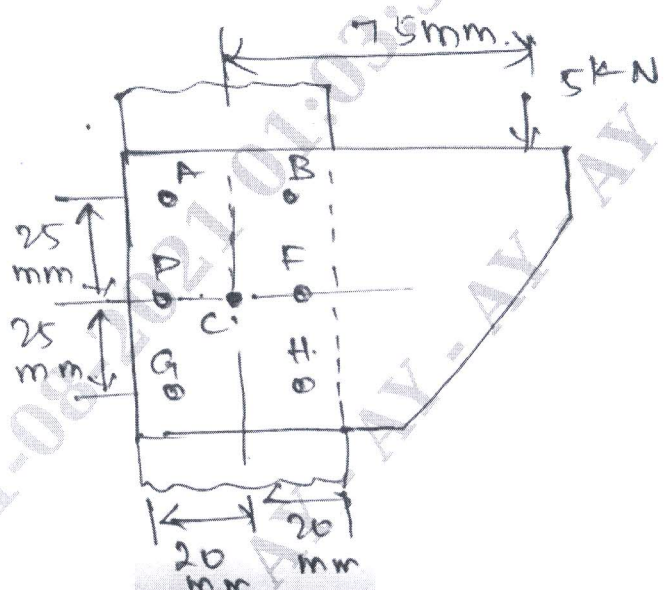

Fig. Q6 (b)
- b. The bracket shown in Fig. Q6 (b) carries an offset load of 5 kN. Determine the resultant shear forces in the Rivets A and B. (08 Marks)